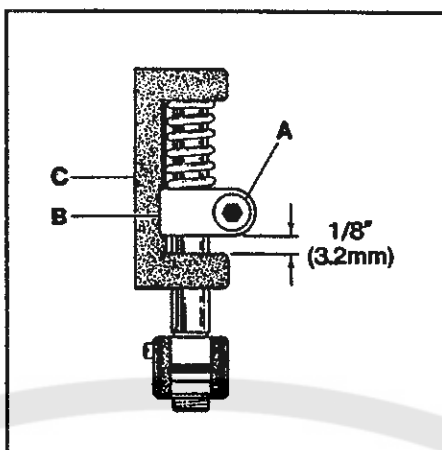

FIG. 30
To set spring pressure between the knives loosen screw (A, Fig. 30) and raise knife holder guide collar (B) 1/8" (3.2mm) from knife driving bracket (C). Tighten screw (A).